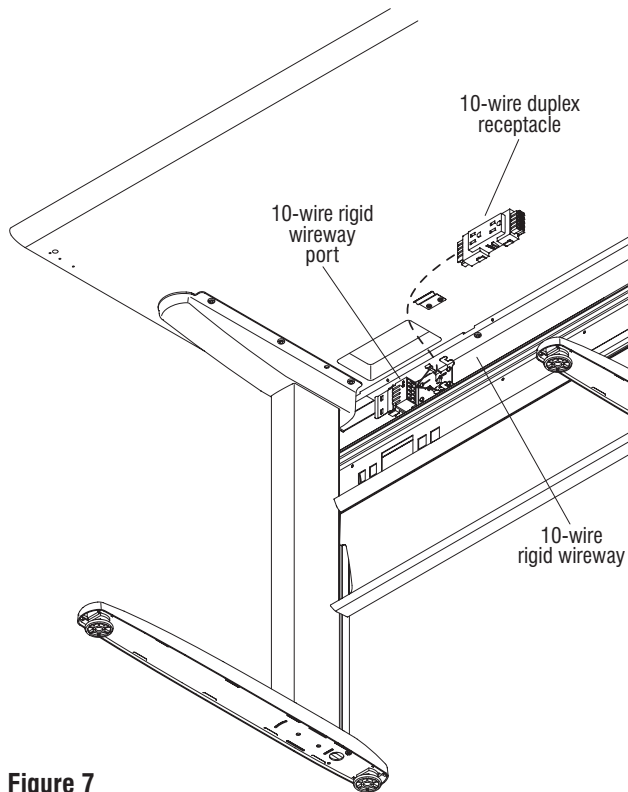

Figure 7
1. Plug the duplex receptacle into the 10-wire rigid wireway as illustrated. Secure the receptacle to the rigid wireway by sliding it into the port until spring clips lock the receptacle into place (Figure 7).